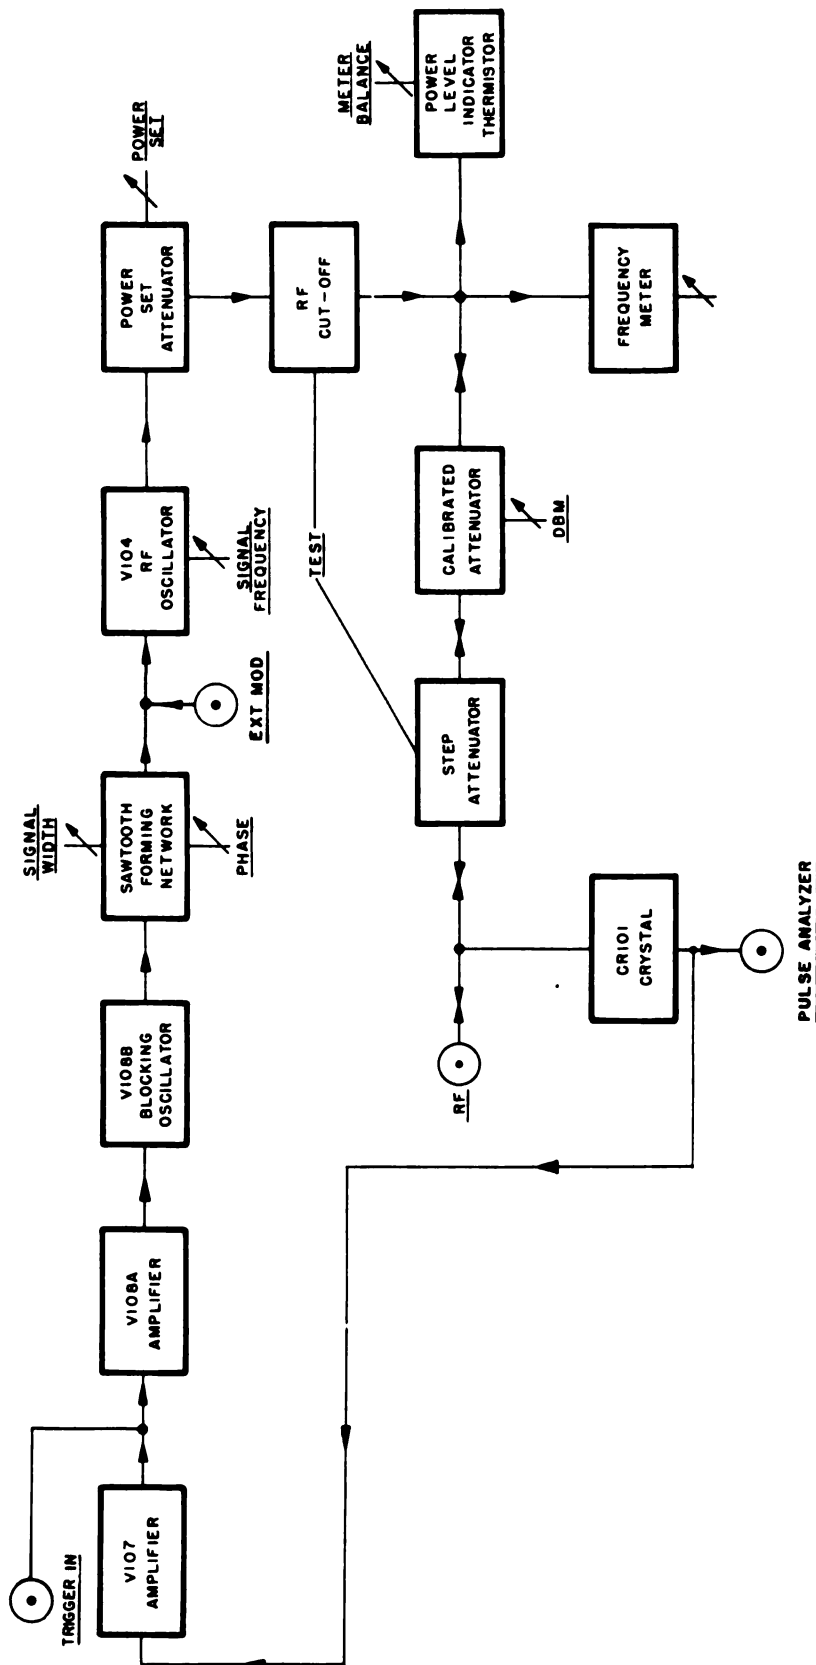

Figure 2-1. Block Diagram of Test Set TS-147D/UP
a. GENERAL.—A block diagram of Test Set TS-147D/UP is given in figure 2-1. The output signals are generated by the reflex klystron oscillator. They are either frequency modulated by the sawtooth voltages supplied by the triggered sweep circuit, or pulse modulated by the voltages supplied by an external pulse circuit. When the signals are frequently modulated, synchronism is obtained through one of two methods: by supplying trigger voltages at the TRIGGER connector, or by the RF pulses detected by the crystal detector and amplified by the trigger amplifier.